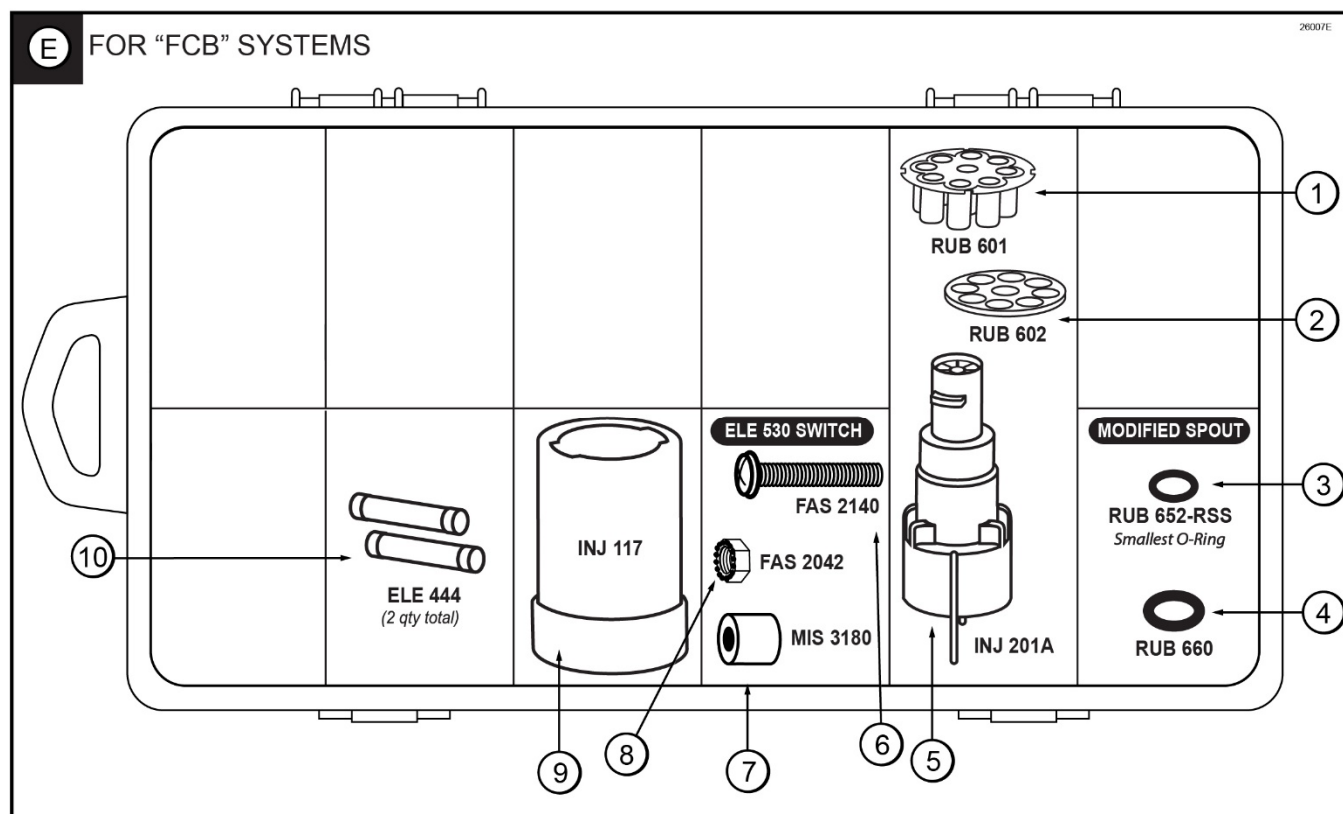

Figure 8E
**“FCB” Spare Parts Kit (See Figure 8E)**